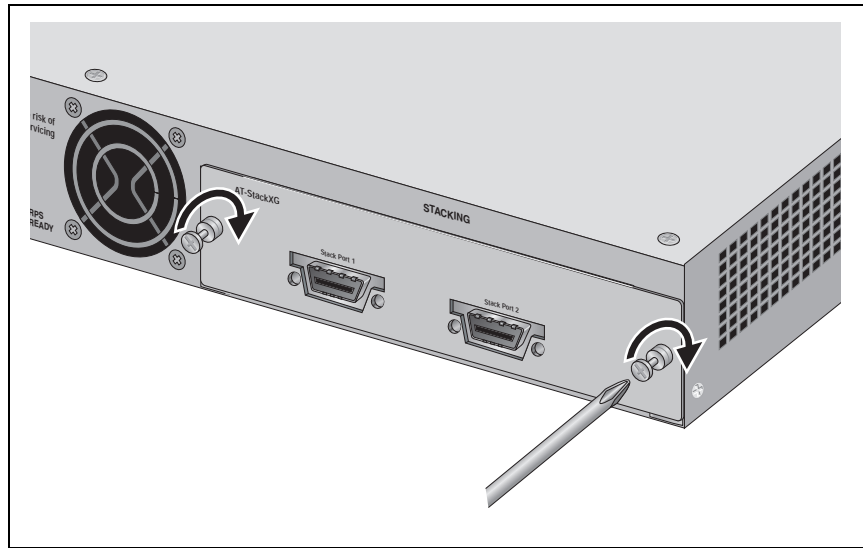
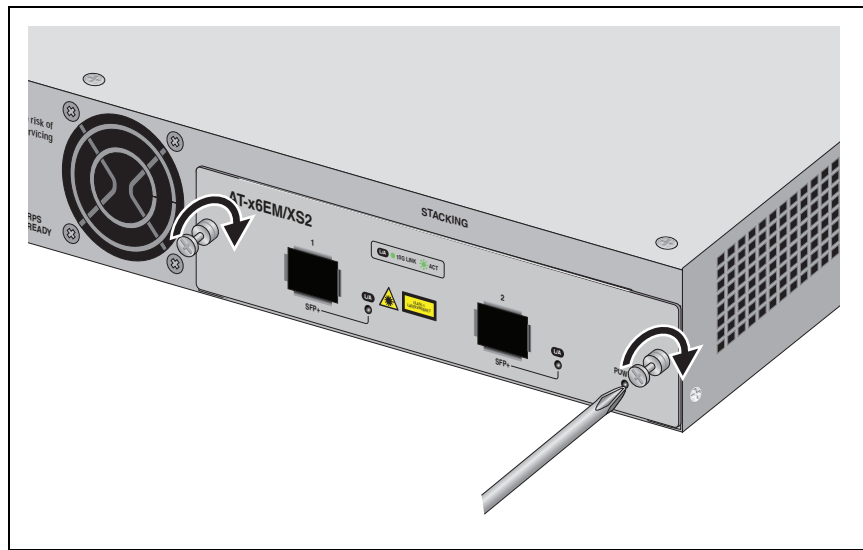

Figure 61. Securing the AT-StackXG Stacking Module
Figure 62. Securing the AT-x6EM/XS2 Stacking Module
4. Secure either the AT-StackXG or AT-x6EM/XS2 stacking module to the chassis by tightening the two captive screws with a cross-head screwdriver, as shown in Figure 61 on page 92 and Figure 62 on page 92.